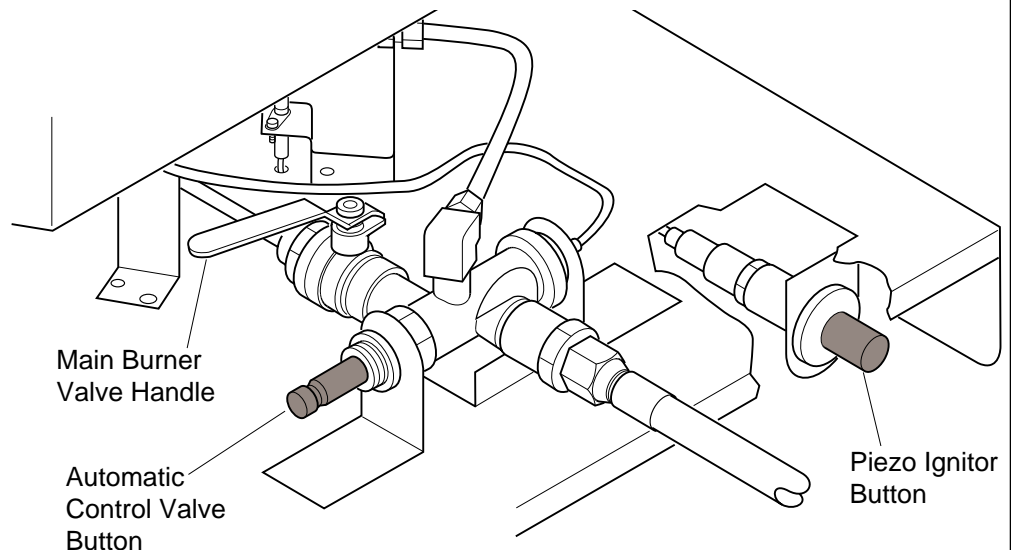

Figure 4 - Main Burner Valve Handle, Automatic Control Valve Button, and Piezo Ignitor Button Locations
4. Push in and hold automatic control valve button (see Figure 4).
5. Push piezo ignitor button (see Figure 4). You may need to push the piezo ignitor button 3-8 times until the pilot lights. *Note:* Hose may be filled with air. If so, keep automatic control valve button pressed and wait 20 seconds before pressing ignitor button again. When pilot lights, keep automatic control valve button pushed in. Release button after 30 seconds.